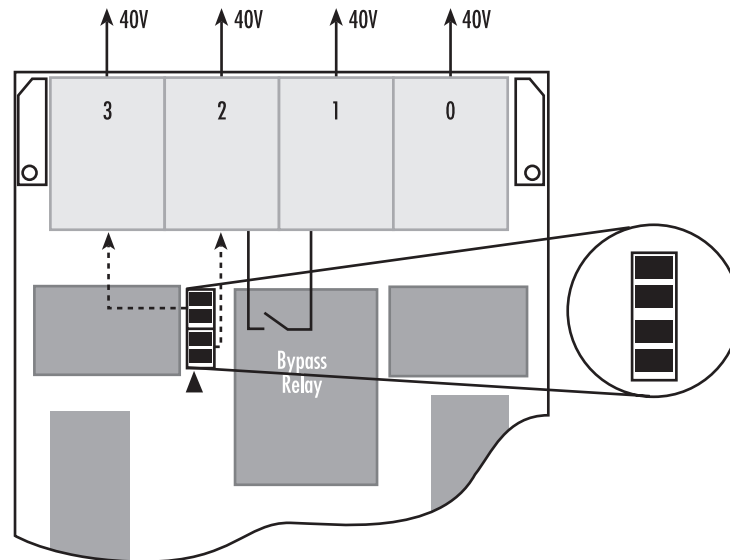

Figure 23. All eight jumper pins bridged
- All eight jumper pins bridged: this setting is used with all four ports configured in *NET* mode and connected to line powered terminals as shown in figure 23 on page 40.